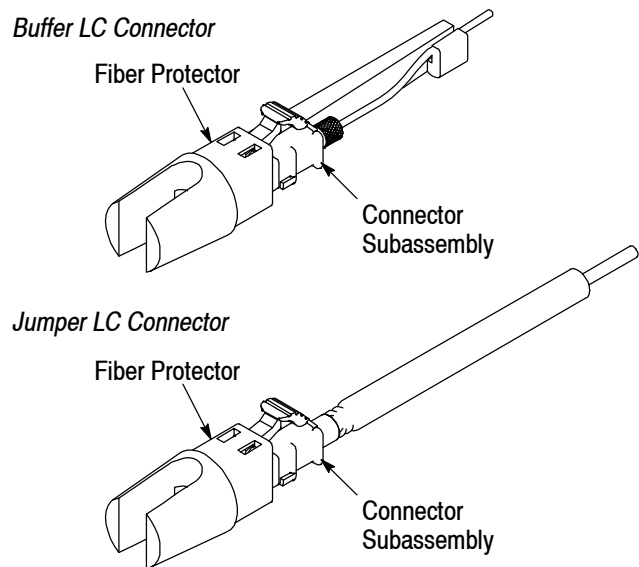

Figure 5
2. If using epoxy, install the fiber protector onto the connector subassembly as shown in Figure 5.